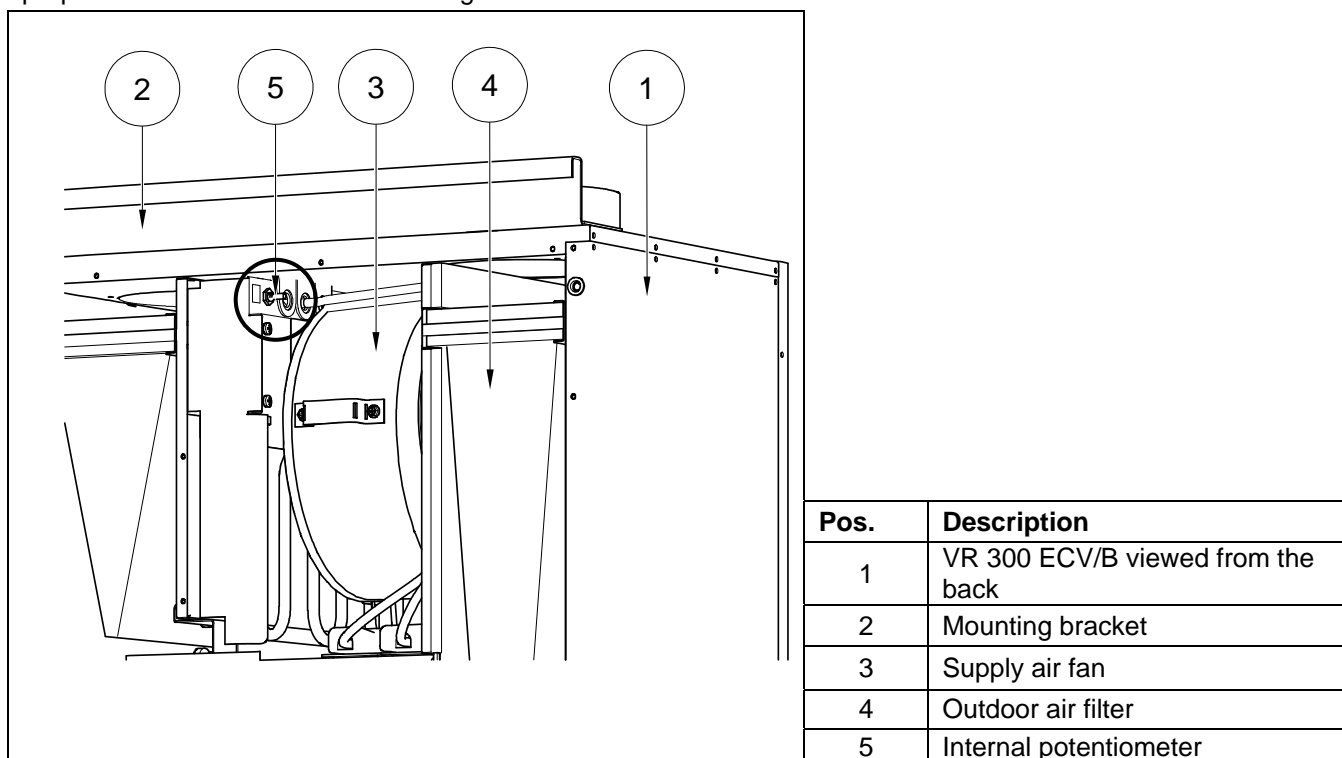

Fig.14
The speed of the supply air fan of VR 300 ECV/B can be adjusted by turning a knob situated inside the unit next to the supply air fan (pos.5, **fig.14**). The knob, a step-less potentiometer, makes it possible to lower the supply air fan speed down to 75% of the speed of the extract air fan, thereby ensuring the proper balance in the unit and building.